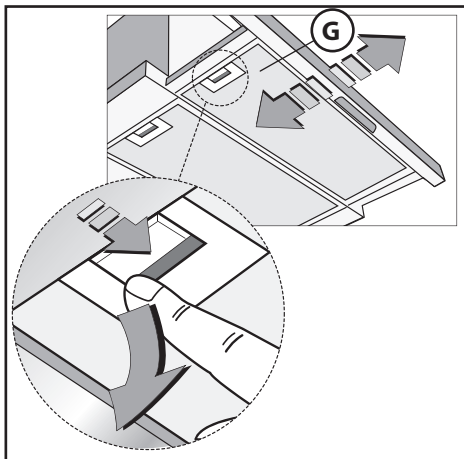

Fig.8
• If the hob is electric, gas, or induction, the minimum distance between the same and the lower part of the hood must be at least **65 cm**. If a connection tube composed of two parts is used, the upper part must be placed outside the lower part. Do not connect the cooker hood exhaust to the same conductor used to circulate hot air or for evacuating fumes from other appliances generated by other than an electrical source. Before proceeding with the assembly operations, remove the anti-grease filter(s) (Fig.8) so that the unit is easier to handle.